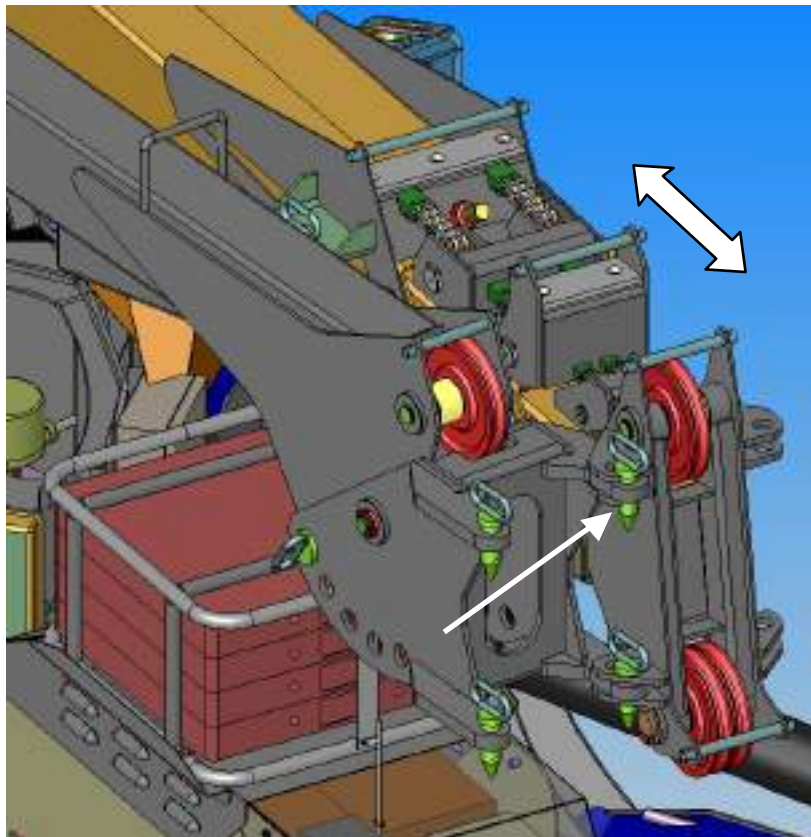

Fig. 1
5. Use the boom extension to centre the hole and insert the two right pins (fig. 1)